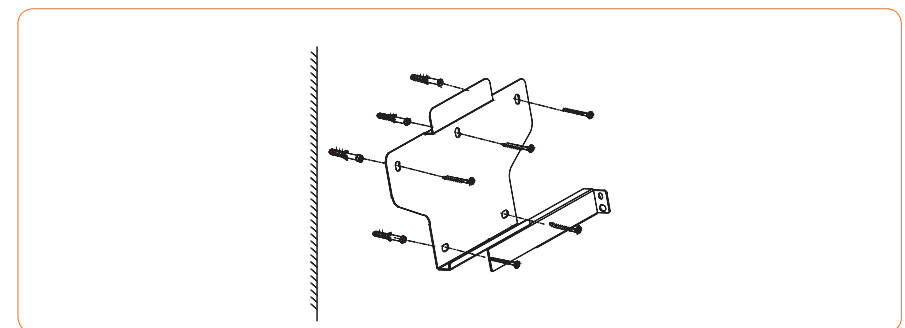

Figure 4-11 Fixing the wall bracket
④ Insert the expansion tubes into the holes and tighten them, then fix the bracket onto the wall with expansion screws by using a cross screwdriver, as shown in Figure 4-11: